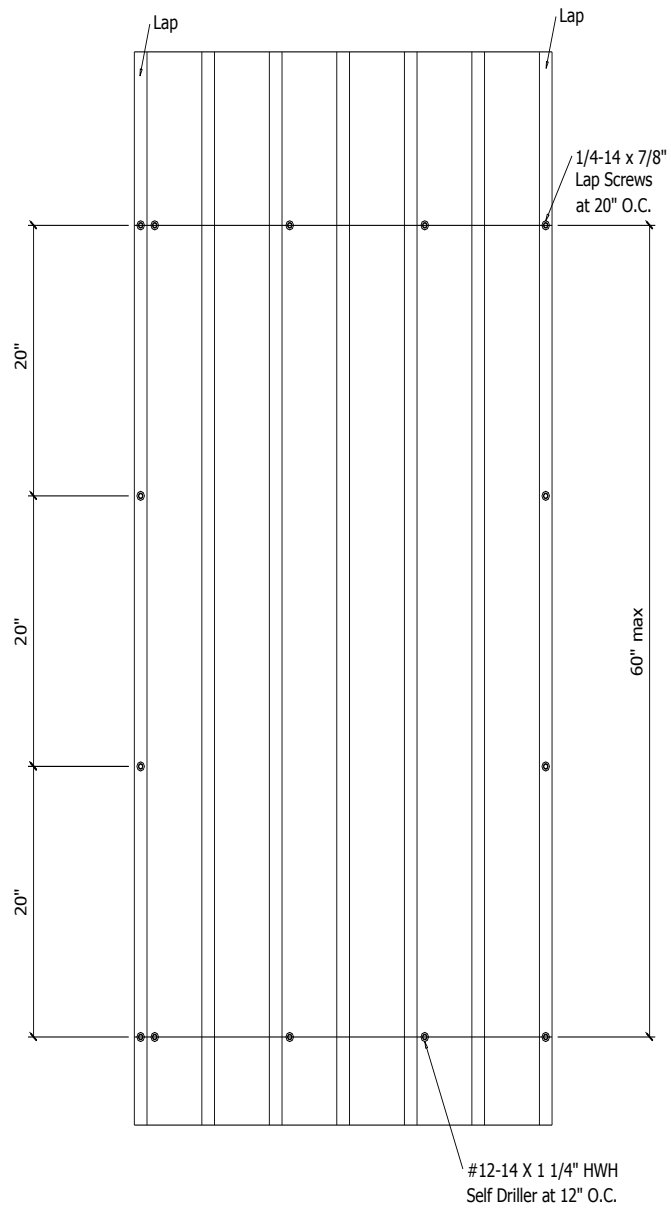

Figure 1. Minimum 26-gauge Steel PBM Panel
**Attachment of Metal Panels to the Steel Girt:** For panel-to-girt attachment, use No. 12-14 x 1-14" long HWH self-drilling screws with a sealing washer. A line of fasteners must be located along each girt. Space the fasteners at 12" on center as noted in Table 1. Refer to Figure 1. The fasteners must be long enough to penetrate a minimum of 3 pitches of thread below the steel girt.
**Panel Edges to the Steel Girt:** For panel-to-girt attachment, use No. 12-14 x 1-14" long HWH self-drilling screws with a sealing washer. A line of fasteners must be located along each girt. Space the fasteners at 12" on center as noted in Table 1. Refer to Figure 1. The fasteners must be long enough to penetrate a minimum of 3 pitches of thread below the steel girt.